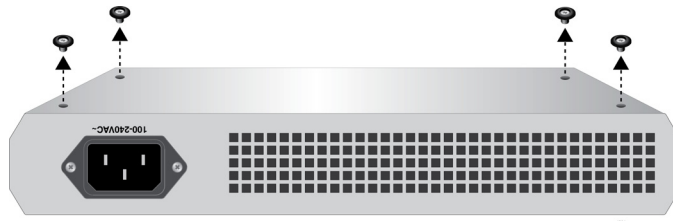

Figure 13. Removing the Rubber Feet
1. If the rubber feet were previously installed, turn the switch upside down and remove them as shown in Figure 13.